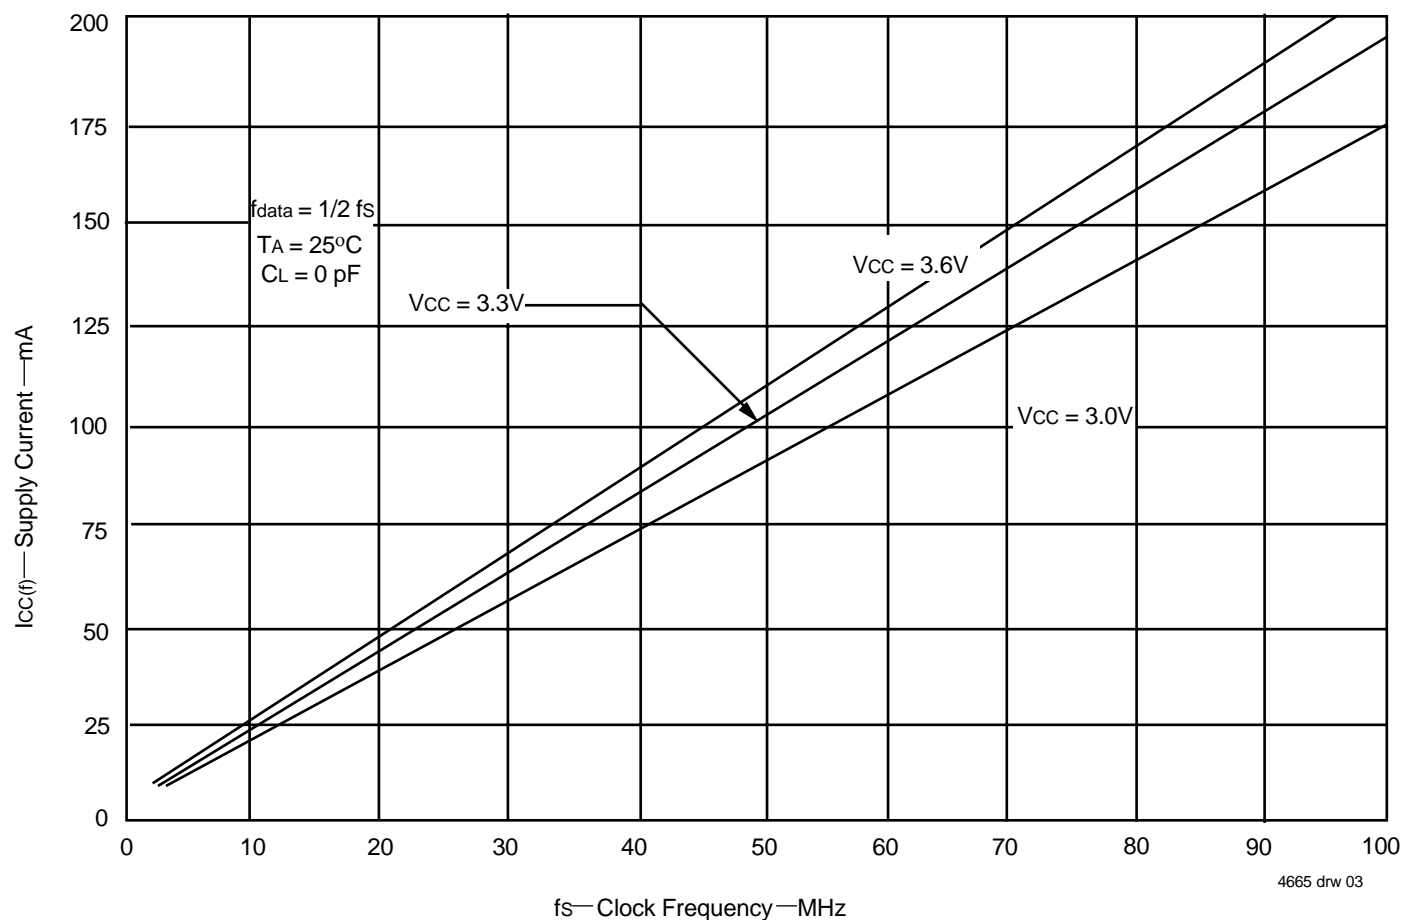

Figure 1. Typical Characteristics: Supply Current (I_{CC}) vs. Clock Frequency (f_s)
- For additional I_{CC} information, see Figure 1, *Typical Characteristics: Supply Current (I_{CC}) vs. Clock Frequency (f_s)*.
The $I_{CC}(f)$ current for the graph in Figure 1 was taken while simultaneously reading and writing a FIFO on the IDT72V3626/72V3636/72V3646 with CLKA, CLKB and CLKC set to f_s . All data inputs and data outputs change state during each clock cycle to consume the highest supply current. Data outputs were disconnected to normalize the graph to a zero capacitance load. Once the capacitance load per data-output channel and the number of these device's inputs driven by TTL HIGH levels are known, the power dissipation can be calculated with the equation below.
With $I_{CC}(f)$ taken from Figure 1, the maximum power dissipation (P_T) of these FIFOs may be calculated by: